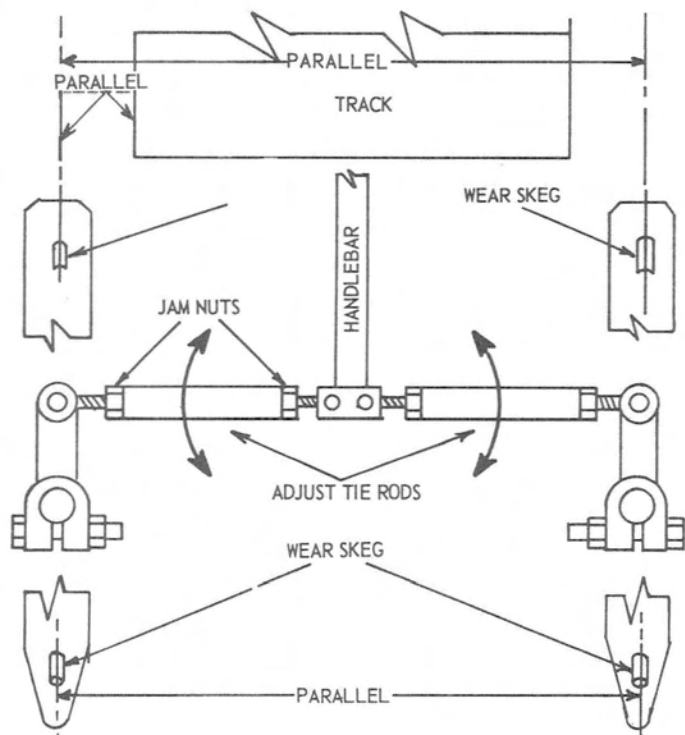

Figure 1. Tie Rod Adjustment - 200, 220, 250, Rocket, Lightning, Hurricane, 440 MAX and 440 S/R Models
3. Adjust either ski until it is parallel with track (Figure 1, 2 or 3).